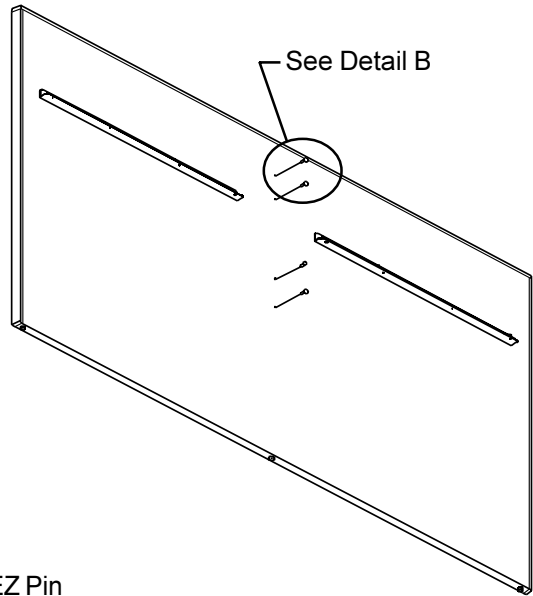

Figure 2B
Install (4) MOD-EEZ Pins on end panels required on 36, 48 and 60 lengths except at 39 heights (See Figure 2B).